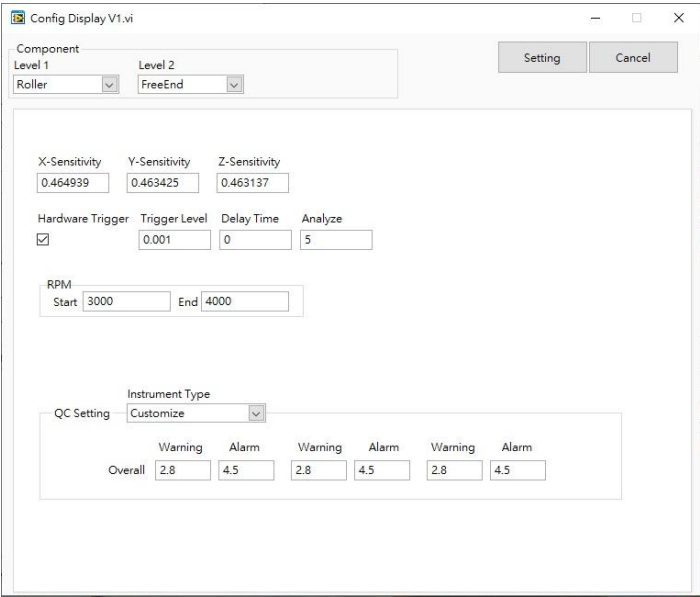

Figure2-35 Aurora Modbus Utility Roller.FreeEnd Mode Analysis Parameter Settings Page
As shown in Figure2-35, the analysis parameter setting descriptions for 213MM2-R1 under Roller.FreeEnd mode are as follows:
- RPM: Speed of rotating machinery; speed range must be set to accurately judge damage energy. Readings are Start 3000, End 4000, as shown in Figure2-35.
- Overall QC Setting: Tri-axial time-domain feature failure determination thresholds; readings for all three axes display Warning 2.8, Alarm 4.5, as shown in Figure2-35; if an equipment category defined in ISO-20816 is selected, the system will automatically populate QC, as shown in Figure2-37.